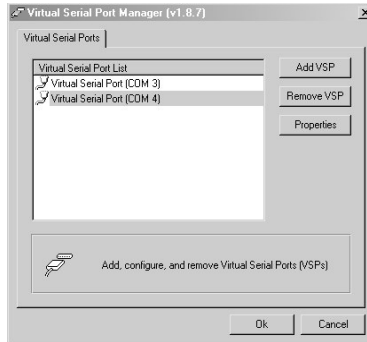

Figure 12: The Virtual Serial Port Properties Window (COM 3 and COM 4)
3. You can set a virtual port for each local port on your **VP-311DVI** (see Figure 12).